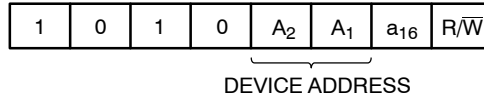

Figure 3. Slave Address Bits
The Master initiates data transfer by creating a START condition on the bus. The Master then broadcasts an 8-bit serial Slave address. The first 4 bits of the Slave address are set to 1010, for normal Read/Write operations (Figure 3). The next 2 bits, A₂, A₁, select one of 4 possible memory devices connected on a single I^2C bus. The A₂ and A₁ bits must match the state of the external address pins. The seventh bit, a₁₆ is the most significant internal address bit. The last bit, R/\overline{W} , specifies whether a Read (1) or Write (0) operation is to be performed. To select an internal memory location (data byte) a 17-bit address word is required: a₁₆ bit from the Slave address byte followed by two address bytes.